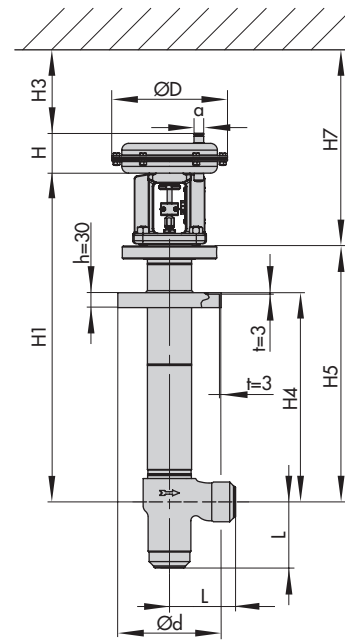

Fig. 10: Type 3248-1 Angle Valve with stainless steel body
**Table 5.2:** Type 3248 Angle Valve in stainless steel version, PN 16 to 40 (Fig. 10)
**Table 5.3:** Type 3248 Angle Valve in stainless steel version, PN 63 to 100 (Fig. 10)